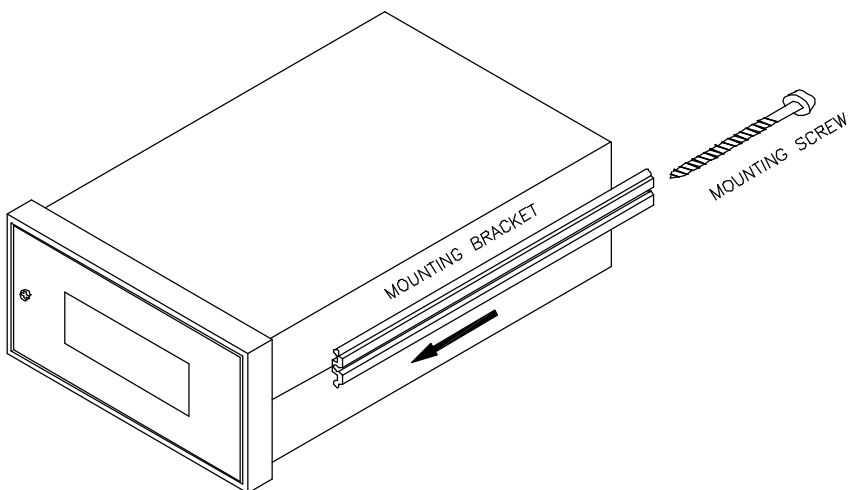

Figure 3
3. Replace the mounting bracket assembly onto the controller and secure the controller to the mounting panel. (**figure 3**)